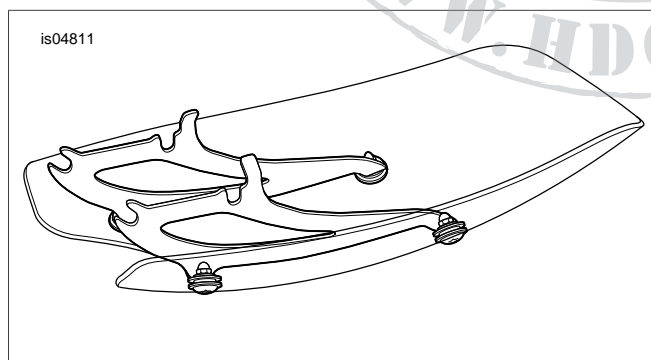

Figure 1. Windshield Subassembly
1. See Figure 1. Remove windshield subassembly from packaging and place face down on a clean, soft surface with mount brackets facing up.